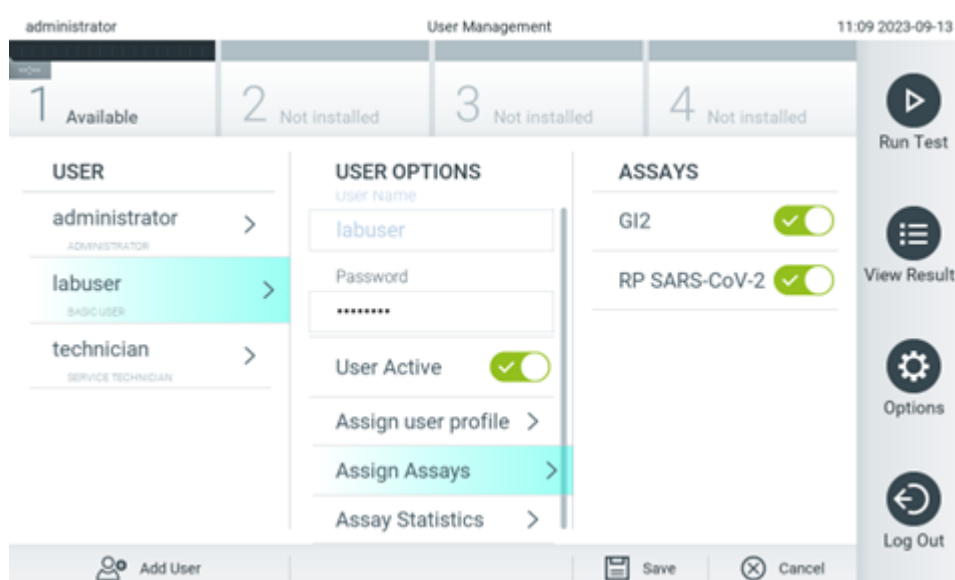

Figure 53. Assigning assays to users.
- **Assign Assays:** Enables defining the assays from the assay database that the user is permitted to run. Select the assays from the **Assays** list on the right of the content area (Figure 53).